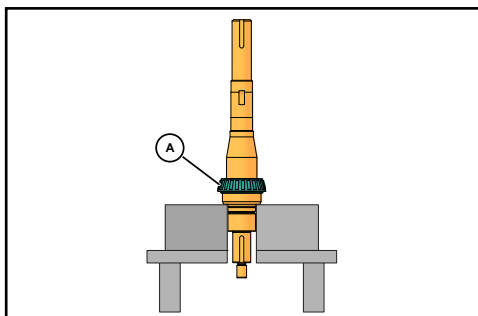

Figure 48 - Press Lower Cone onto Shaft
3. Lift the lower cone and roller assembly (Figure 48, item A) out of the bearing stack and place it on the shaft with the radius facing down. Press it onto the shaft until it is seated against the shaft shoulder. **Press only on the inner cone.**